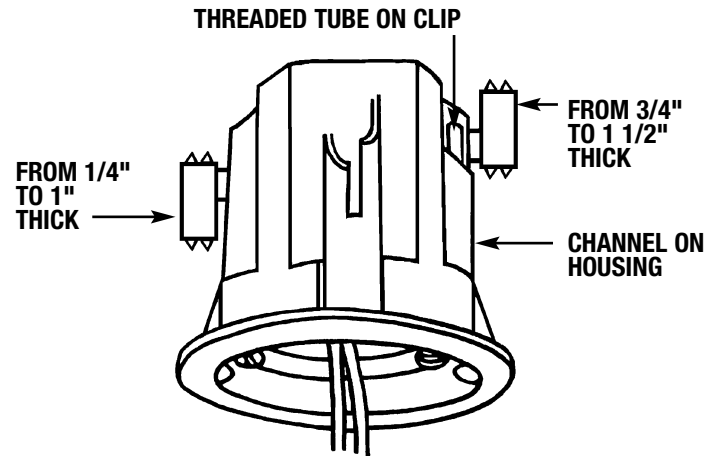

FIGURE 3
1. Rotate clip for various material thicknesses (see Fig. 3).